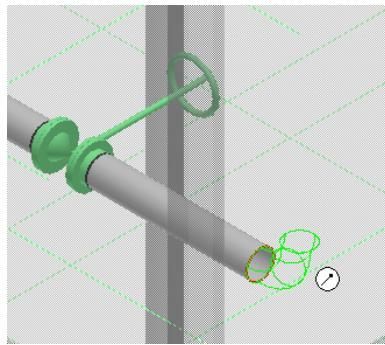

Figure 48: 90 Deg Elbow at the End of the Pipe
72. You will now see the outline of an elbow at the active placement point, as shown in Figure 48.